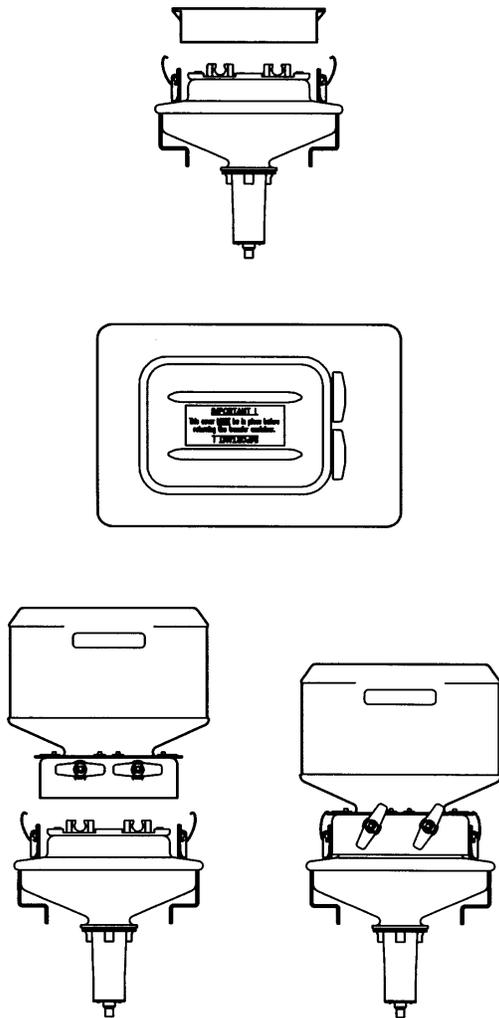

Figure 12
1. Remove rain cover from base container (see Figure 12). Store rain cover for use whenever transfer container is not installed on base container.